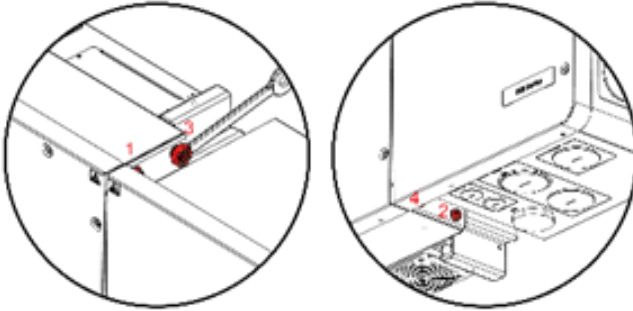

Figure 3-17 Tighten the M8 nuts
D. Tighten the M8 nuts following the following order 1→2→3→4 and repeat to confirm that all the nuts are tightened securely. (**Figure 3-17**)